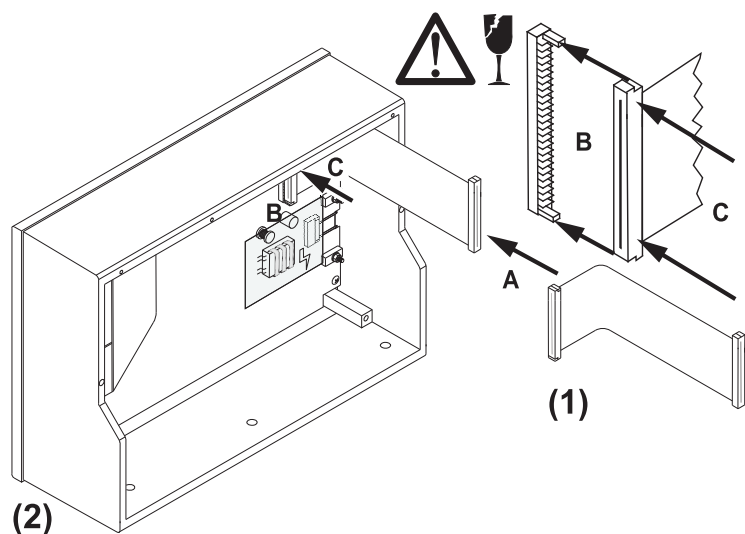

Fig. E 7-9: Attaching the connecting flat cable
- Place again the last detached plug of the connecting flat cable (A) exactly between the two guiding pins of the connector on the display pcb (B). Fasten it with slight pressure (C). Avoid damage of the connector, the locker and the connecting flat cable because of canting. Then prepare it like shown in Fig. E 7-9.